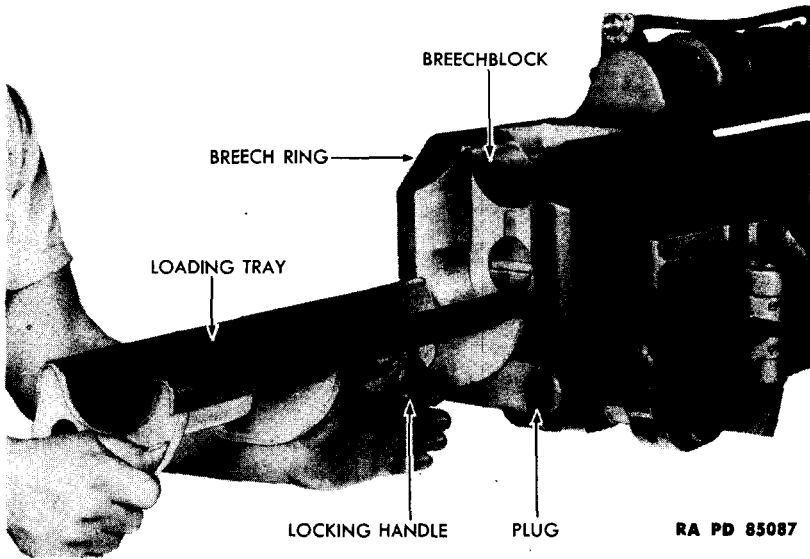

Figure 4 – Releasing Lock on Loading Tray
a. **Remove Loading Tray.** Pull loading tray locking handle outward to disengage loading tray locking shaft (fig. 4) and tilt tray to left so that loading tray flat head machine screw is readily accessible for removal (fig. 5). Remove flat head machine screw and washer that secure upper end of tray support to breech ring (fig. 5). Then loosen extractor plugs that secure lower end of tray support to breech ring. Lift loading tray and tray support straight upward and off extractor plugs.